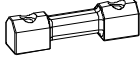

**Fig. 1**
1. Place the unit at its final destination. Rotate the Adjustable Glides (T) on the bottoms of the legs until the unit is level. See Figure 1.